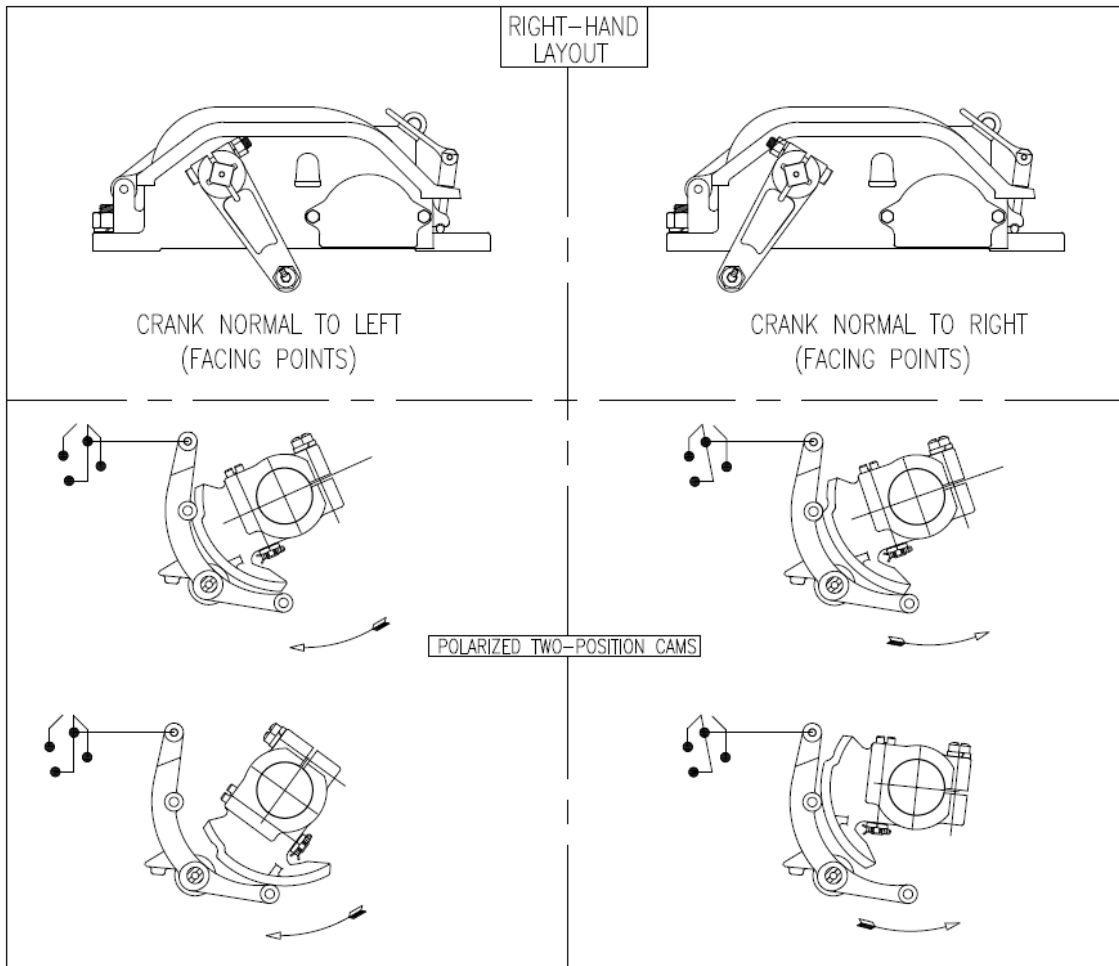

FIGURE 3-1
In a typical application, the 856- switch circuit controller is used to monitor the two positions of the switch points (normal and reverse). The switch points drive the operating crank (shown in figure 1-1) via a circuit controller operating rod. The operating crank in turn drives the camshaft, which has four individually adjustable cams mounted to it. Each cam is used to drive or release a spring loaded operating arm around a pivot. Force is transferred through an insulating link to the movable spring contact (wiper arm). When the operating arm is released as illustrated in figure 1-1, the wiper arm is contacting the inner contact spring. After the cam has driven the operating arm, the wiper arm is contacting the outer contact spring. Figure 3-1 shows the orientation of the operating crank, operating arms, cams, and contacts for both normal to the left and normal to the right conditions. Note that in the typical application described in this manual, the four 2-position cams are arranged in two pairs with each pair oriented at a different position on the camshaft (polarized). In this arrangement presume that the switch points are driven from normal (position shown in figure 3-1) to reverse. When the switch points go past $\frac{1}{4}$ " away from the normal position, the pair of A contacts transfer; when the switch points are $\frac{1}{4}$ " away from the reverse position the pair of B contacts transfer. For a reverse to normal move, the B contacts transfer just beyond $\frac{1}{4}$ " from reverse and A contacts transfer at $\frac{1}{4}$ " from normal.
4.3.1 Cam Adjustments (see Figure 3-1)